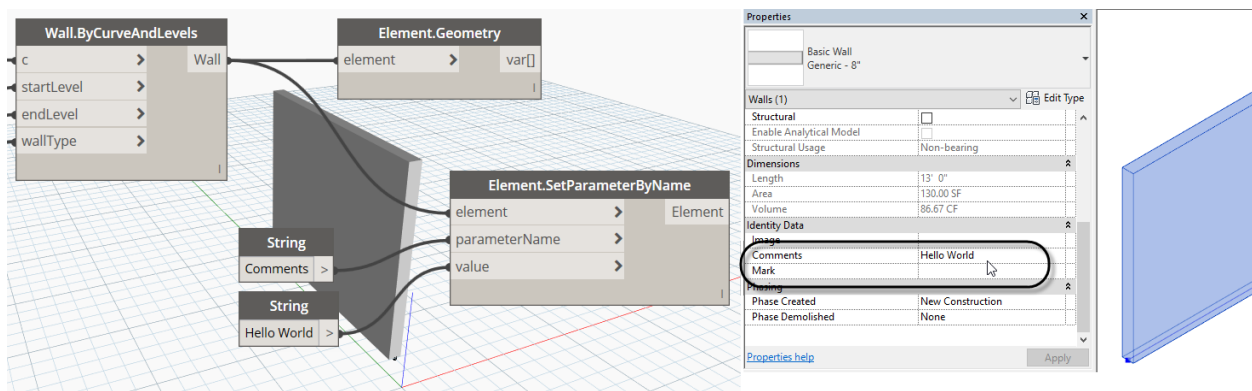

FIGURE 24
29. Wire the output from the **Wall.ByCurveAndLevels** node (not the **Element.Geometry** node) to the element input on the **SetParameterByName** node (see Figure 24).